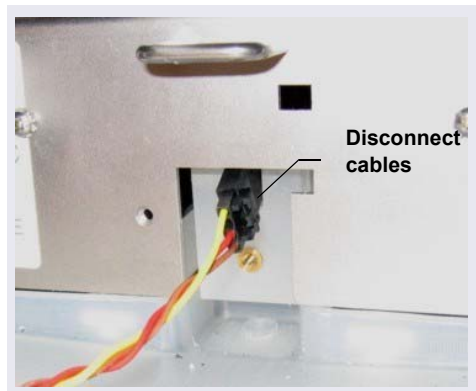

Figure 9-35. Leak Sensor Cable
6. The cable attached to the leak sensor connects to a cable inside the DC. Continue pulling the cable until the connectors for the two cables are outside the panel (see Figure 9-35).